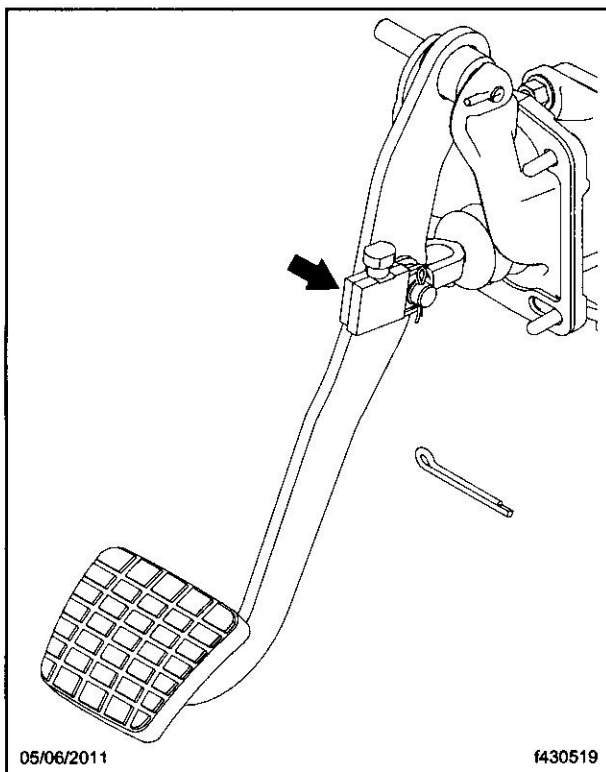
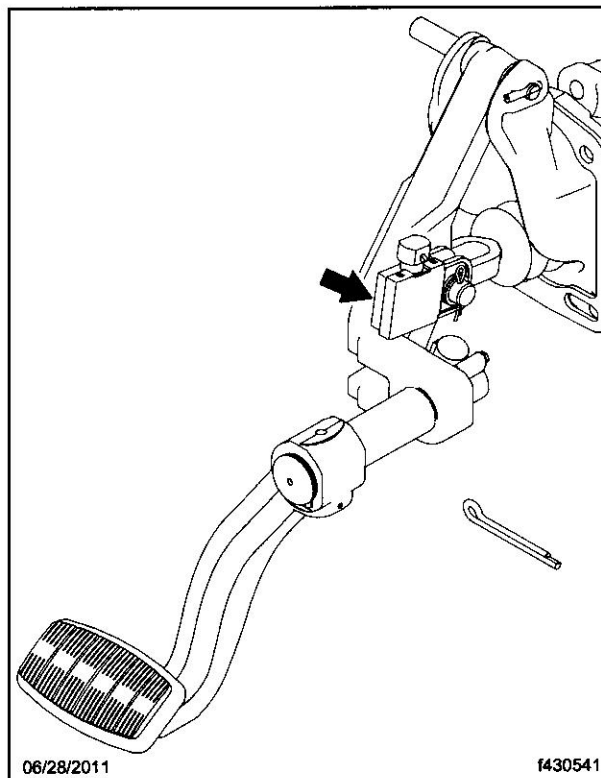

Fig. 1, Brake Switch Location, Fixed Brake Pedal
Fig. 2, Brake Switch Location, Adjustable Brake Pedal
3. Determine whether the brake pedal is fixed or adjustable. See **Fig. 1** and **Fig. 2**.
1. Locate the brake switch on the brake pedal. See **Fig. 1** for location on a fixed brake pedal. See **Fig. 2** for the location on an adjustable brake pedal.